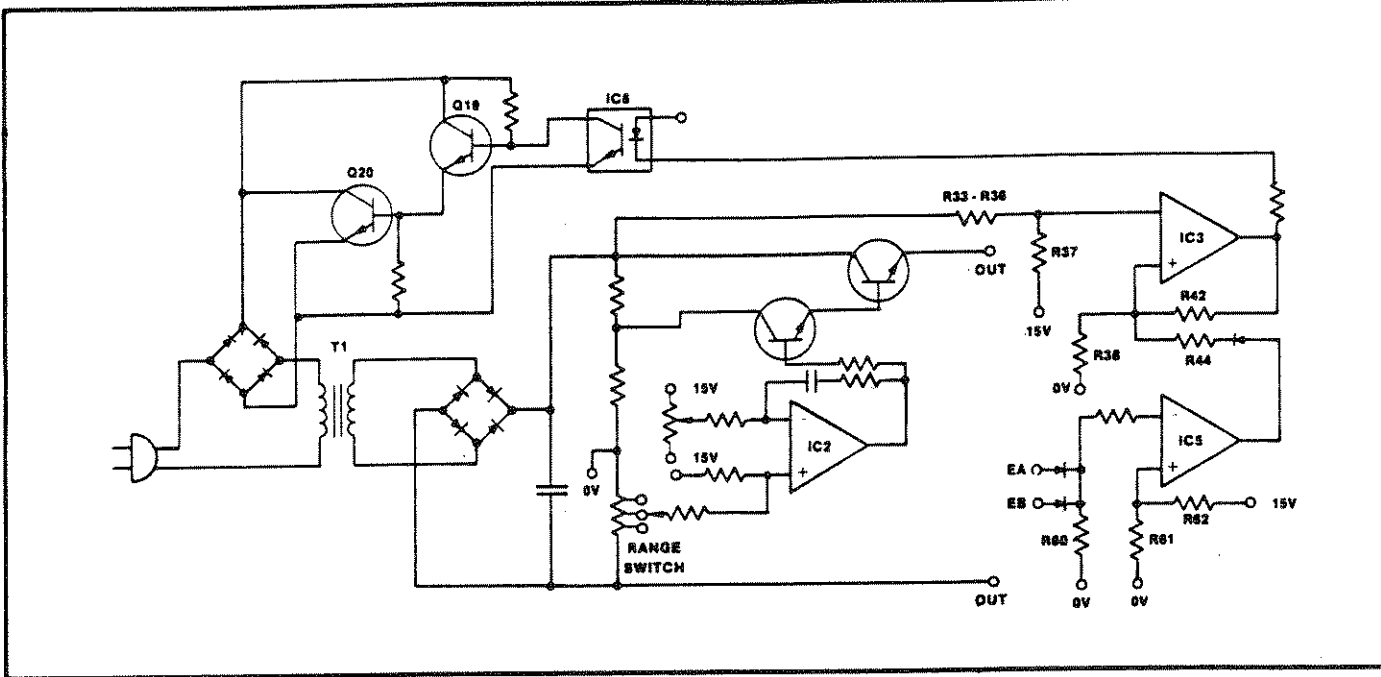

Figure 4-2. Simplified Schematic Diagram, Model 2701B Precision DC Voltage Calibrator.
4.15 To facilitate an understanding of circuit operation, a simplified diagram of the high-voltage power supply and output regulator circuits is included as Figure 4-2. Its purpose is to provide an overall view of the circuit interconnections. It is not intended to replace the complete schematics, although the reader may wish to refer to this diagram as well as those of Figures 5-3 and 5-4. Note that all circuit components are not included in Figure 4-2 and, also, that some that are may not be identified.
4.17 The switching power supply provides the power for the instrument's series regulator which provides the output voltage. Primary power is applied to transformer T1 through a diode bridge consisting of diodes CR42 through CR45. Transistor Q20, connected across the DC output terminals of the diode bridge, is driven by Q19. Q19 is driven, through optical isolator IC6, from comparator IC3 and zero crossing detector IC5. The bridge acts as an open circuit unless Q20 is conducting. When Q20 is turned on, the bridge conducts in both directions, permitting the primary AC to pass to the transformer. With Q20 conducting continuously, the bridge consisting of CR50 through CR53, connected to the secondary of T2, rectifies the AC, providing approximately 1500 volts DC to filter capacitors C9 through C12. Lower voltages are produced when Q20 does not conduct continuously. Resistors R128-R145 equalize the voltage across the filter capacitors. Note, as shown in Figure 4-2, that the high voltage power supply has a resistance path from positive to negative which is tapped to provide a ground connection. The drop across the resistance from positive to ground will be maintained at approximately 100 volts by the circuit of IC3 and IC5. IC2 utilizes the drop across the resistance connected from ground to the negative terminal as a sense input to the summing junction at its non-inverting input.